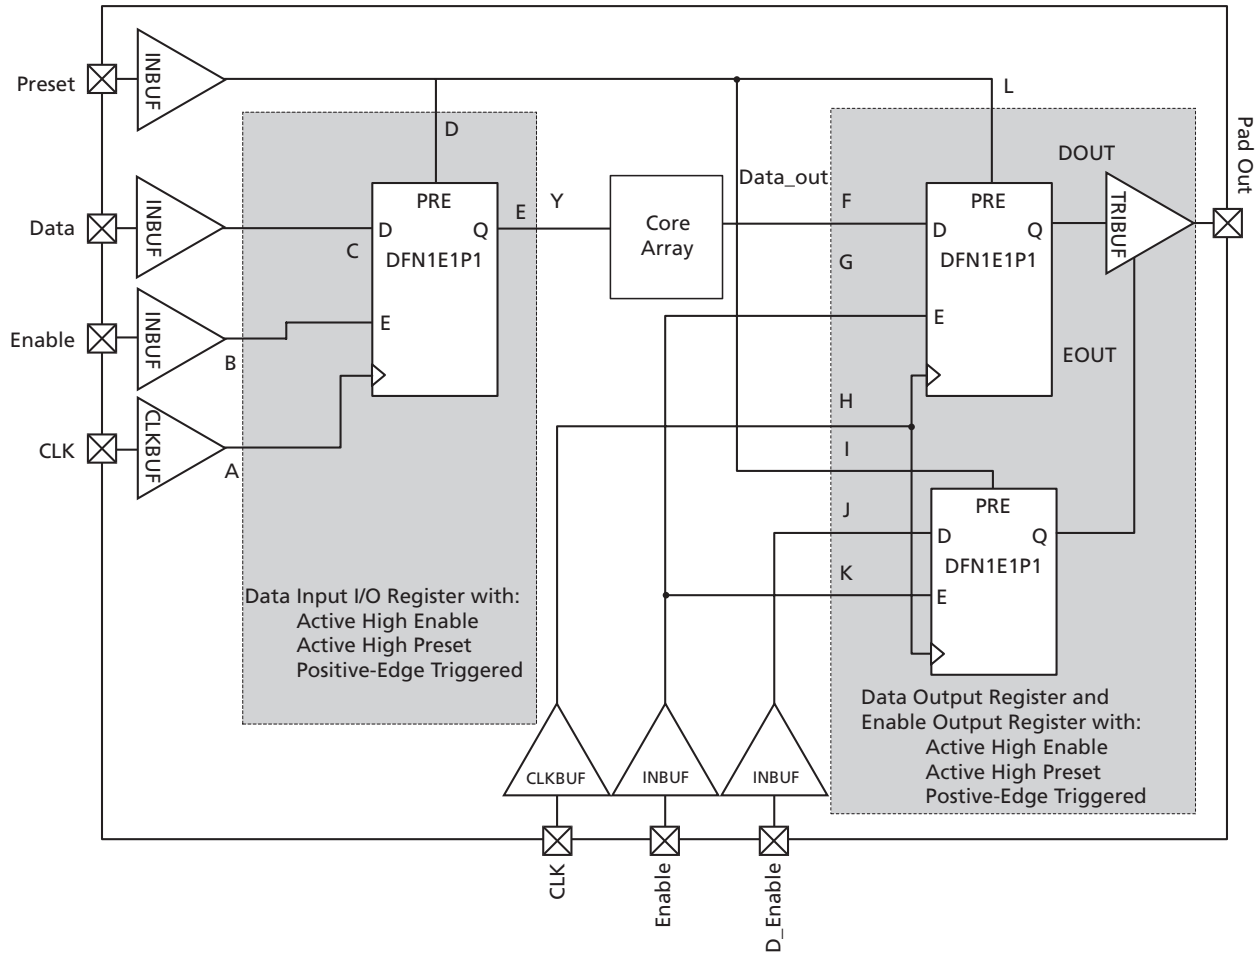

Figure 2-26 • Timing Model of Registered I/O Buffers with Synchronous Enable and Asynchronous Preset
* See Figure 2-26 on page 2-96 for more information.